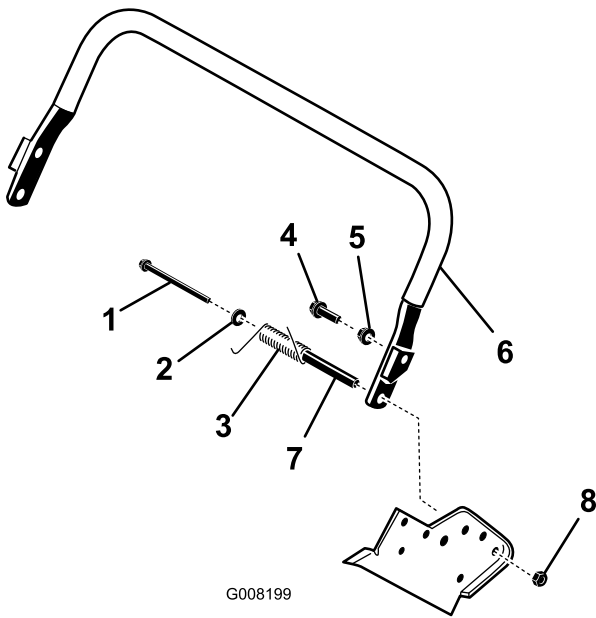

Figure 5
2. Install a washer onto the small bolt. Install the right side of the kickstand to the frame with the bolt and washer, the small spacer, and locknut (Figure 5). Ensure the bolt is installed from the inside of the frame as shown in Figure 5.
Important: When installing the spring, place one end of the spring under the rear frame (Figure 5).
5. Install the left side of the kickstand to the frame with the bolt and washer, the large spacer and spring, and locknut (Figure 5). Ensure the bolt is installed from the inside of the frame as shown in Figure 5.